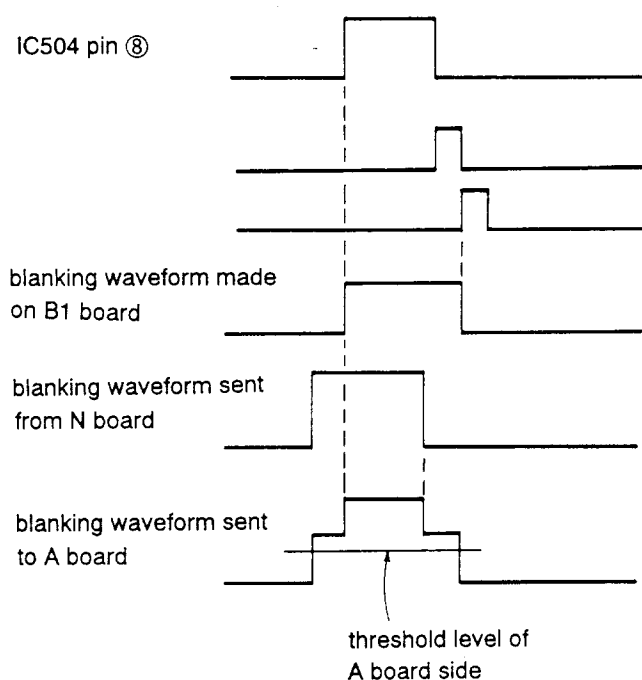

Fig. 3-4.
With the output from pin ⑧ of IC504 as a trigger, the beginning pulse of the BKG pulse is made at IC506 (1/2). After mixing this pulse with the blanking waveform sent from the deflection system board (N Board) at Q513, it is output to the A board. This relation is as shown in Fig. 3-4.